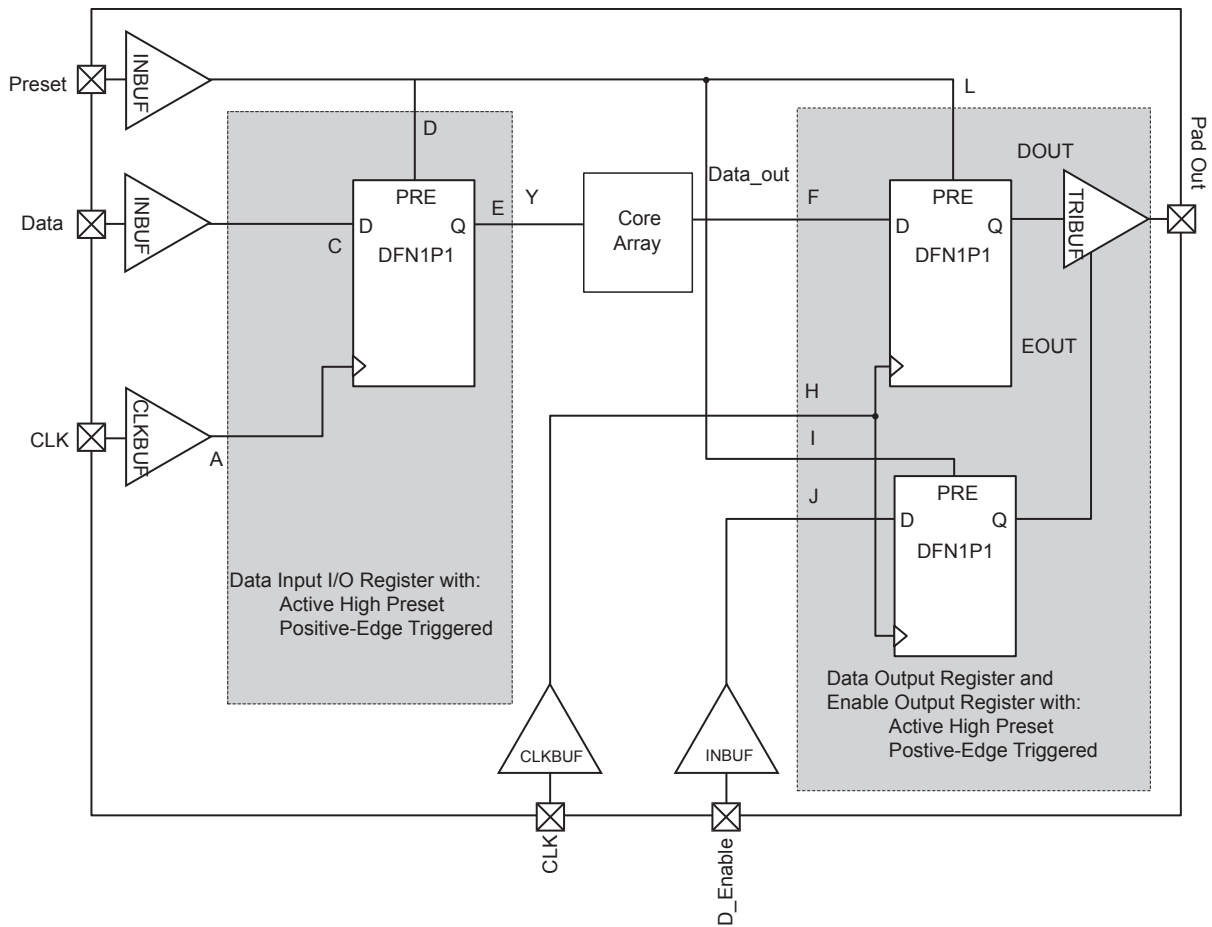

Figure 2-12 • Timing Model of Registered I/O Buffers with Asynchronous Preset
*Note: *See Figure 2-12 on page 2-41 for more information.*